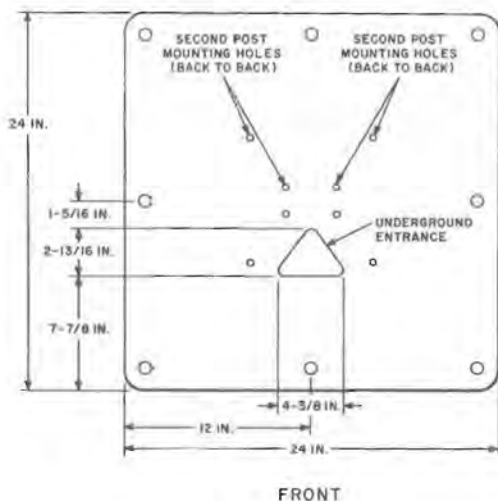

Fig. 14—B-565322 Base
3.05 Place base (Fig. 14) in the exact position that pedestal will be mounted